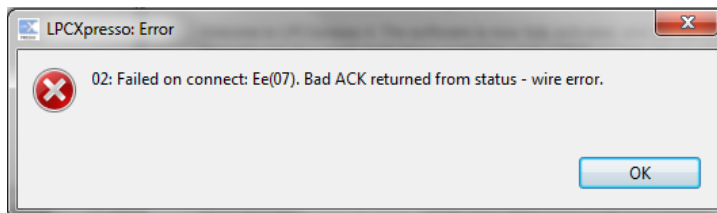

Figure 10 – LPCXpresso IDE Program Failing to Flash
- When flashing a new program, the processor can already be in a low-power mode making it impossible to connect to the processor and download the new program. An error message like illustrated in Figure 10 is typical in this case. The solution is to force the processor into ISP/bootload mode before trying to download/flash a new program. Just follow the steps below to accomplish this: